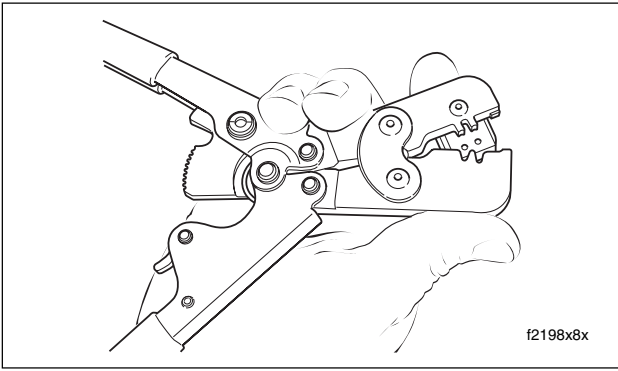

Figure B-31. Raise Locking Bar and Barrel Holder
5. Raise locking bar and barrel holder by pushing up on bottom tab with index finger. See Figure B-31.